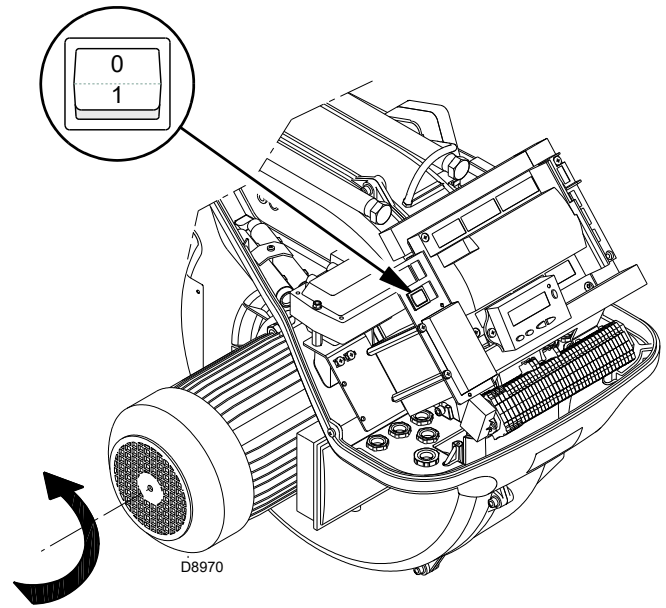

Fig. 32
Close the thermostats/pressure switches and turn the switch of Fig. 32 to position "1".
As soon as the burner starts up, go in front of the cooling fan of the fan motor and check it is rotating anticlockwise. See Fig. 32.
- place the switch of Fig. 32 in position "0" and wait for the control box to carry out the switch-off phase;
The burner is in the heat request waiting mode, or the selector “0-1” (Fig. 32 at page 32) is at “0”.